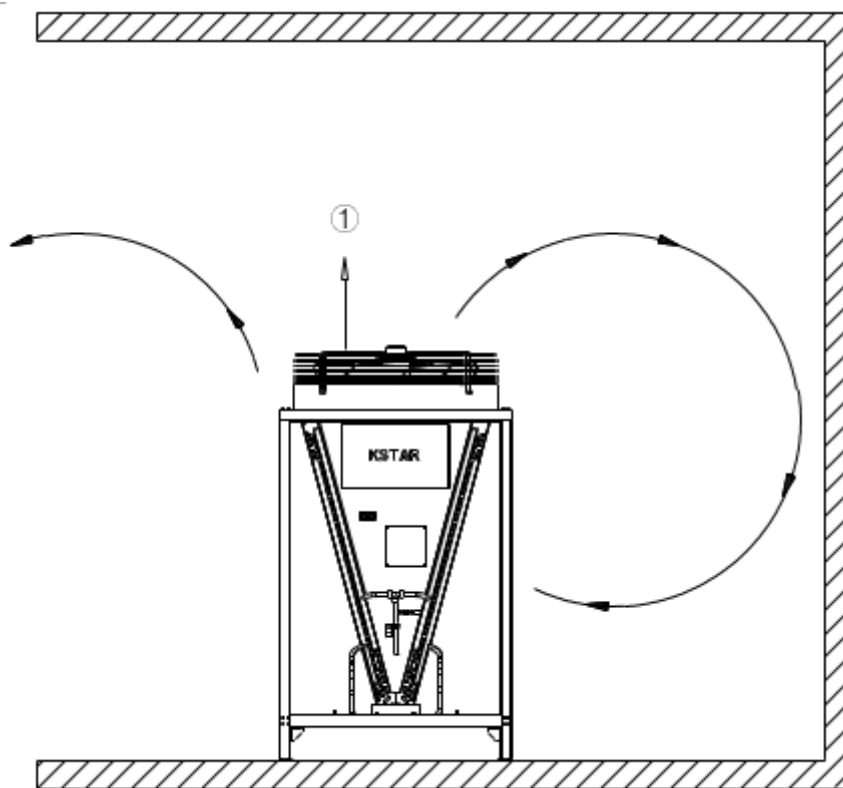

Fig. 2-5 Schematic diagram of installation of hot air short circuit
3. The air outlet of the KC air-cooled centralized condenser should avoid short circuit of hot air, which will result in poor heat exchange effect, as shown in Fig. 2-5.